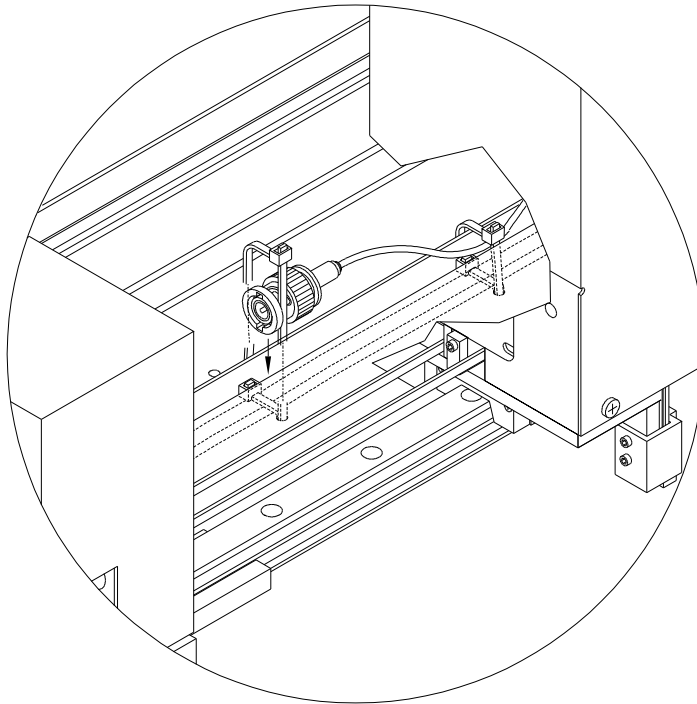

Figure 3. Attaching the unused coaxial cable to the wire tray.
5. Disconnect the BNC connector on the right side of the Z axis cover. This cable will not be used for this application. Use a cable tie and attach the unused cable to the wire tray as shown in Figure 3.